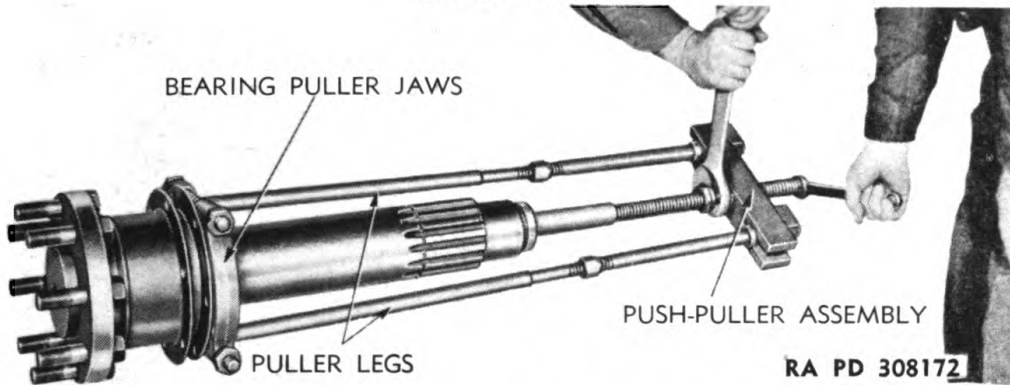

Figure 70 — Removing Inner Sprocket Shaft Bearing, Using Adapter (A-347829) and Puller (41-P-2957-100)
(1) **REMOVE OUTER BEARING** (fig. 70). Install bearing puller jaws back of bearing, wedging jaws against shaft, then connect puller legs and push-puller as shown in illustration, and pull bearing from shaft.
b. Installation. With aid of chain hoist, move assembly into position against tractor. The end of pinion shaft must be inserted through spacer and into differential gear. Install the large cap screw and bolt that attaches bottom and top of gear case to front of hull frame (fig. 10) but do not tighten until the 6 bolts with high nuts and 5 cap screws with lock washers have been installed that attach gear case to spacer (fig. 70). Tighten these bolts and cap screws, then the large bolt and the cap screw. Remove the blocks supporting weight of differential, then install 10 bolts to attach final drive case to bumper support. Install front plate on bumper supports with 22 cap screws and lock washers. Connect and adjust tracks as explained in TM 9-785. Make sure drain plug in gear case is tight and fill gear case with lubricant to level of oil level plug in front of case. Install and tighten level plug.